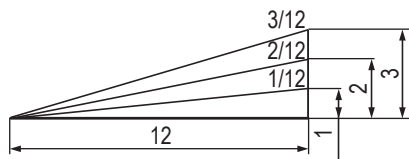

Fig. 32
- (7) The gradient, which is the ratio of the height to the base of the triangular section to be removed, may be used for setting the miter scale instead of the cutting angle, if desired (see Fig. 32).